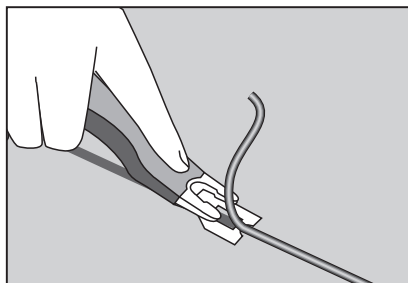

Fig. 1
- Pre-trim using the 0.7 mm trimming guide under the MOZART knife blade (Fig. 1)